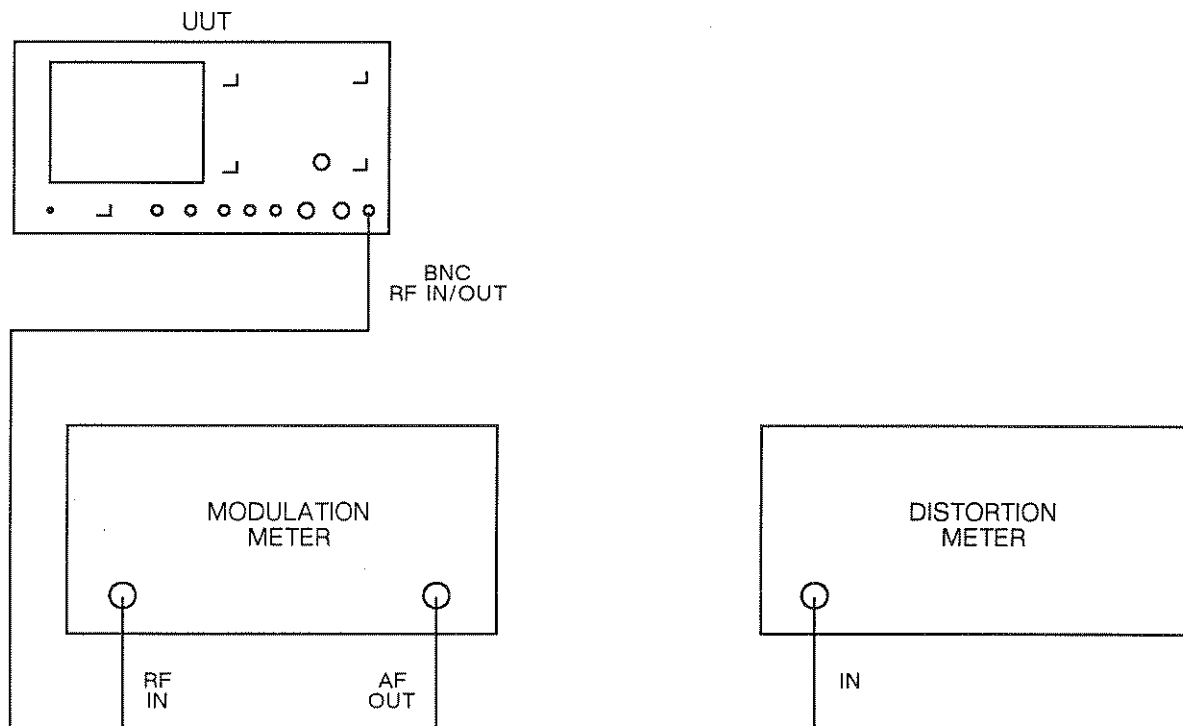

Fig. 5-22 Test equipment connections for RF generator AM and FM distortion
- (1) Connect the equipment as shown in Fig. 5-22.
- (2) Set the UUT to RX, RF GEN, carrier frequency 100 MHz, BNC output socket, level 0 dBm, FM frequency 1 kHz sine wave, modulation level 25 kHz, distortion/SINAD/SN off.
- (3) Set the modulation meter to monitor FM with 0.3 to 3.4 kHz band-pass filter selected.
- (4) Check that the FM deviation indicated on the modulation meter is within  $\pm 7\%$   $\pm 10$  Hz.
- (5) Repeat the above at random deviations between 0 and 25 kHz, and random carrier frequencies between 0.5 and 1000 MHz.
- (6) Repeat for modulation rates between 50 Hz and 15 kHz and check that the modulation meter deviation reading is within  $\pm 10\%$ . Ensure that the correct filters are selected on the modulation meter according to the modulation rate being used.